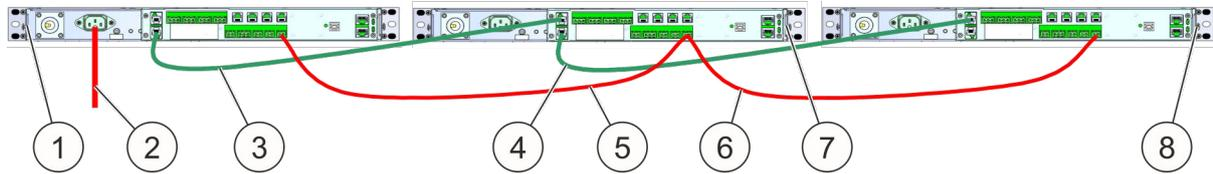

Fig. 51: Energy supply and data line
1. ➤ Connect the mains supply (Fig. 51/2) of 100 – 240 V/AC to the Master (Fig. 51/1).
2. ➤ Establish the power supply (Fig. 51/5) between Master and first Slave (Fig. 51/7). See also Chapter 5.3.7 “Power supply” on page 32.
3. ➤ Establish the power supply (Fig. 51/6) between first Slave and next Slave (Fig. 51/8).
5. ➤ Connect the *CAN bus connecting cable (Master/Slave)* (Fig. 51/3) between Master and first Slave.
6. → Connect the *CAN bus connecting cable (Master/Slave)* (Fig. 51/4) between first Slave and next Slave.